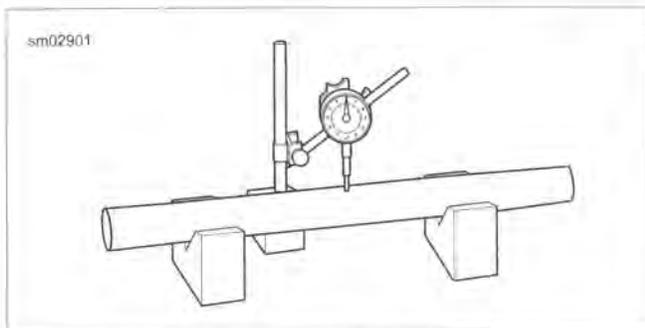

Figure 2-64. Measure Fork Tube Runout
7. See Figure 2-64. Check runout with a dial indicator.
8. Install fork spring (5) with the tightly wound coils toward the bottom. Install spacer (4) and sleeve (3).